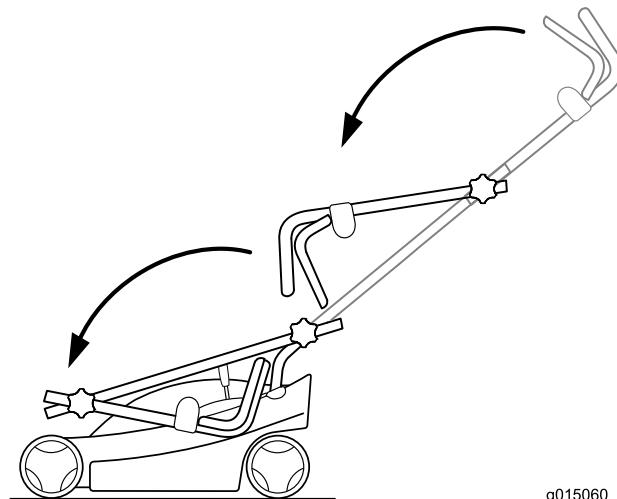
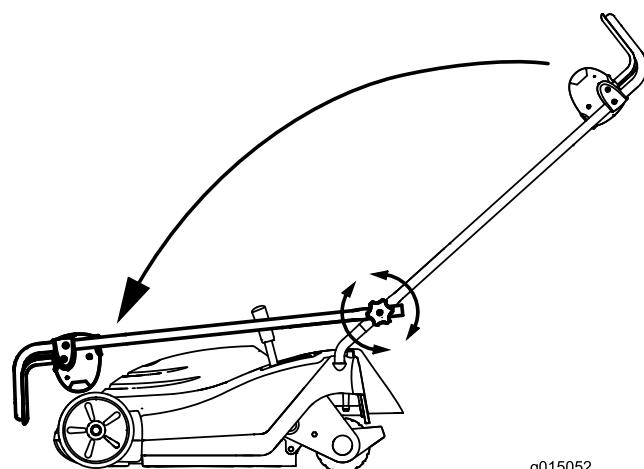

Figure 20
Figure 21
3. Fold the handle as shown in Figure 20 and Figure 21, depending on your model.